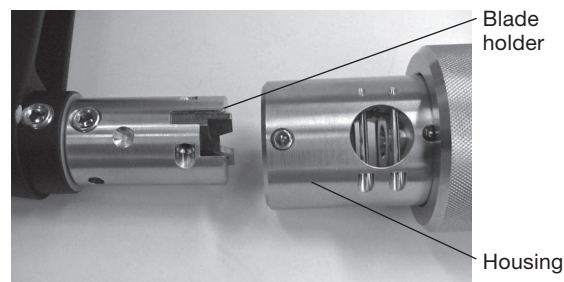

Fig. 4 Remove blade holder
2. Remove the blade holder from the housing. (Fig. 4)